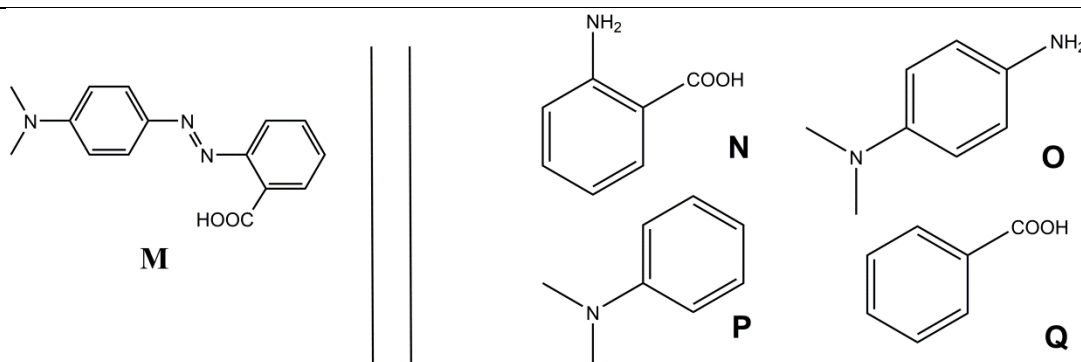

Fig. 1 – Possible reactants for the synthesis of **M**.
2. **M** can be synthesized in two steps from simple reactants (Fig. 1). **Choose** the reactants (**N** to **Q**) that can provide **M** with very high regioselectivity. Sodium nitrite ($NaNO_2$) in cold aqueous hydrochloric acid are used as reagents for the first step of the synthesis.